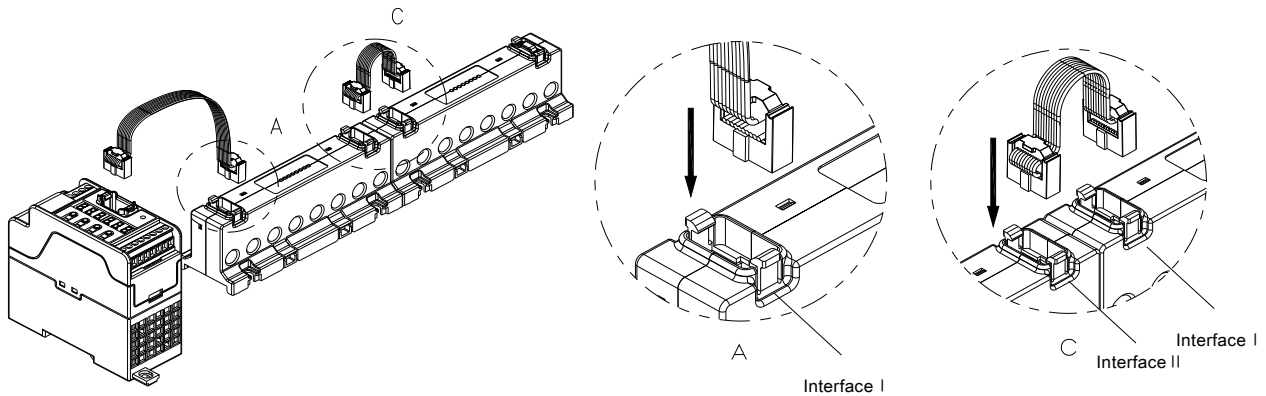

Figure 5
6.1.3 LCD display module installation dimension (Figure 5)